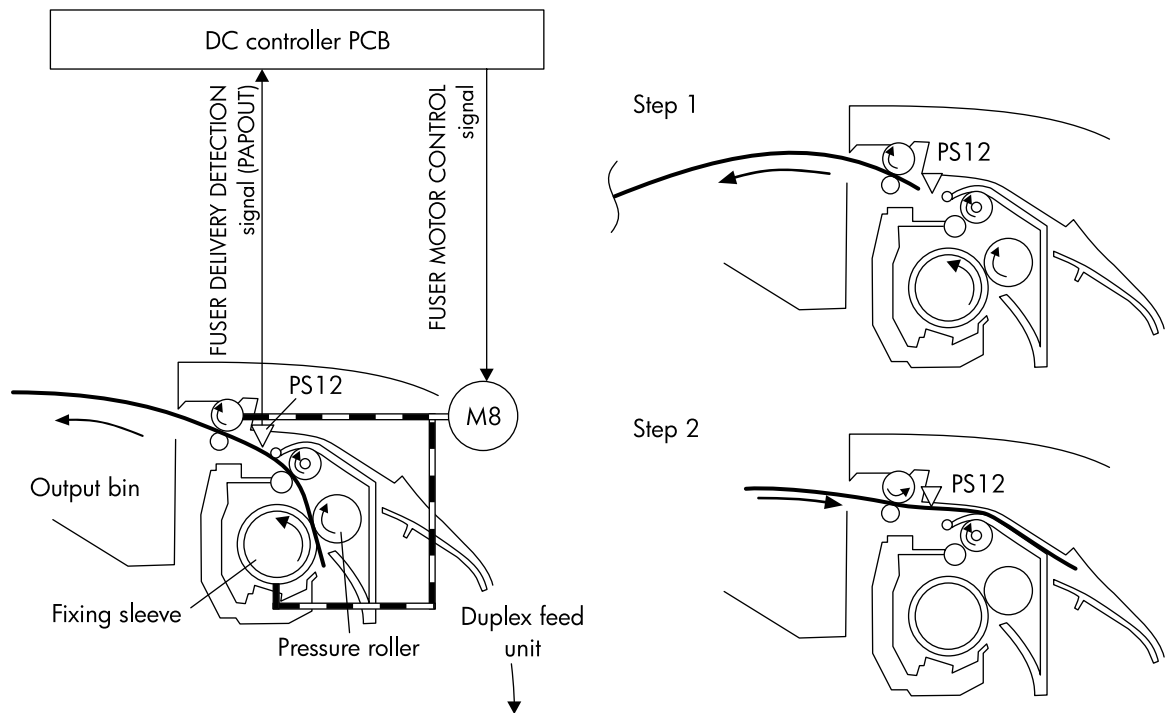

Figure 5-37 Duplex switch back
- 2 The fuser motor (M8) rotates counterclockwise for a specified length of time after the paper reaches the fuser delivery sensor. The fuser delivery roller reverses direction and feeds the paper into the duplex feed unit. Figure 5-37 illustrates this "switch back" operation.